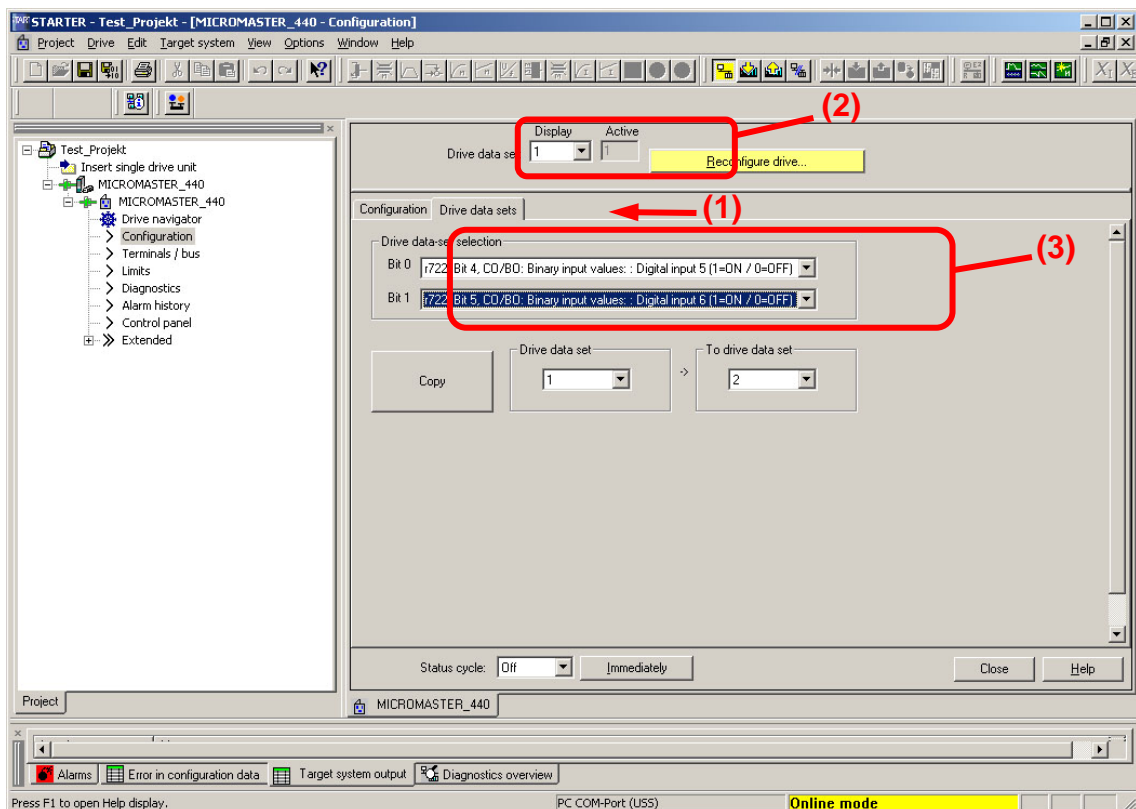

Figure 2-4 Selecting a drive data set using the STARTER start-up program
- Open the "**Configuration**" screen by double clicking on the button with the same name in the project tree (1)
- Under the "**Configuration**" tab, activate the checkbox "**Display all drive data sets**" (2)
- The "**Drive data sets**" tab is then displayed (refer to Fig. 2-4)